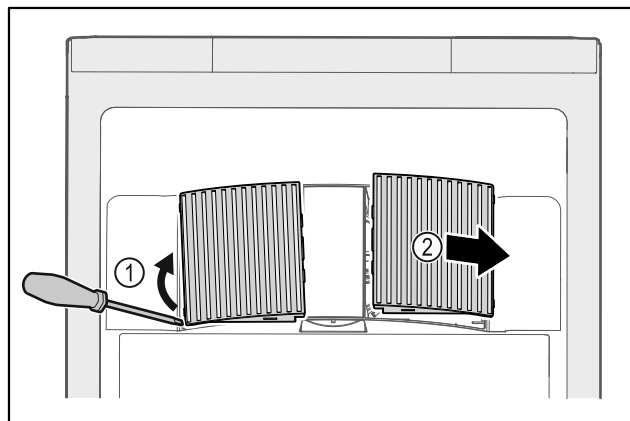

Fig. 105
- ▶ Carefully lever out fan covers from the side Fig. 105 (1) and remove towards the front Fig. 105 (2).